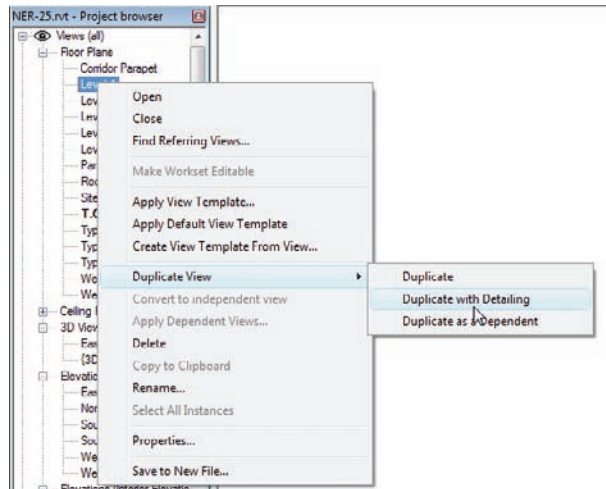

FIGURE 8.67 Selecting Duplicate View > Duplicate With Detailing
1. In the Project Browser, right-click on Level 1 and select Duplicate View > Duplicate With Detailing, as shown in Figure 8.67.